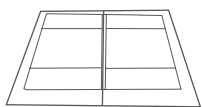
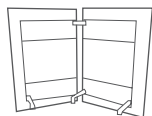

Figure 1A
Figure 1B
- 1** Carefully place the base flat (Figure 1A) or in a side L position (Figure 1B).